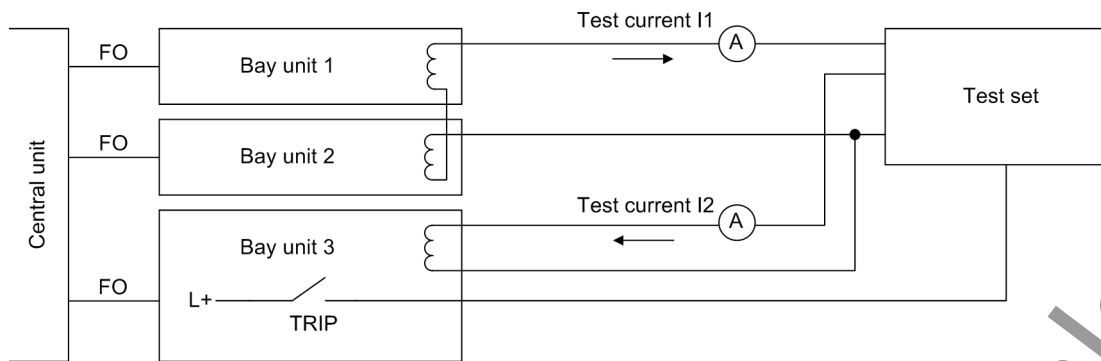

Figure 7-14 Test setup for the trip characteristic of the check zone.
The test setup for the check zone is shown in Figure 7-14, page 274. When the bus selectivity is checked switch one or more bays on a second bus (possibly by a feeder position simulation)
- Connect the current inputs of these bay units back to back (see Figure 7-14, page 274). Connect bay 3 to a different bus.